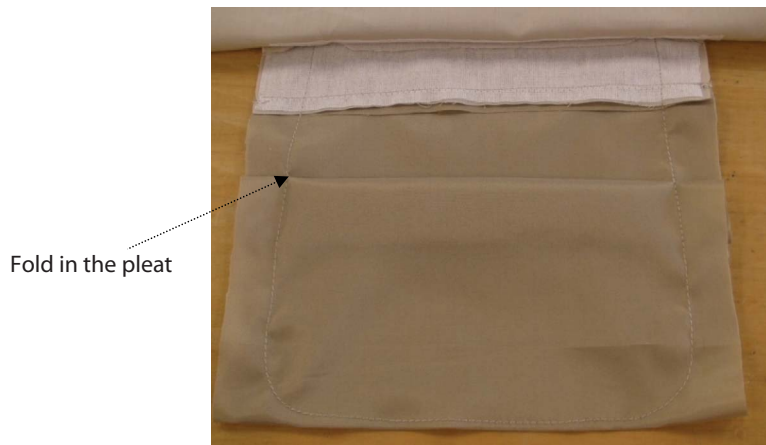

Figure 33
10. Insert a pleat in the pocket bag by folding the fabric upwards; this pleat will prevent drag on the pocket mouth when it has objects in it. Stitch around the pocket bag (see Figure 33).